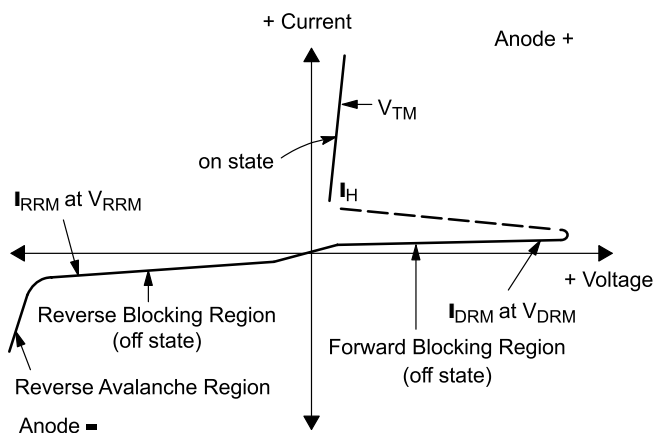

Figure 1. Typical RMS Current Derating
2. Ratings apply for  $t_w = 1$  ms. See Figure 1 for ITM capability for various duration of an exponentially decaying current waveform,  $t_w$  is defined as 5 time constants of an exponentially decaying current pulse.
5. Ratings apply for  $t_w = 1\text{ ms}$ . See Figure 1 for  $I_{TM}$  capability for various durations of an exponentially decaying current waveform.